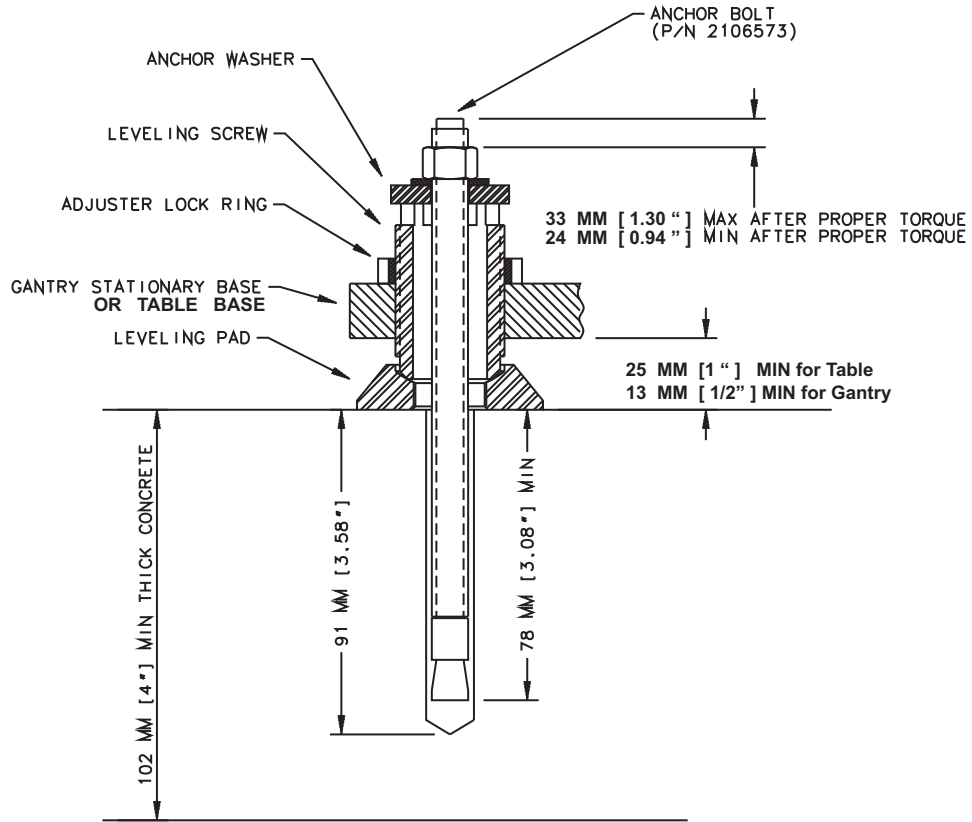

Figure 1-58 Gantry and Table Anchor Assembly with 8-inch Anchor (P/N 2106573)
- Drill each hole until the mark on the drill bit is even with the top of the drill bushing. All holes must be have a depth specified in Table 1-3, as measured from the top of the adjuster to the bottom of the hole. (See Figure 1-58, on page 78) Use an upside-down anchor to check the hole depth.